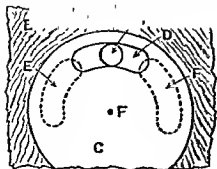

FIG. 10
are now on the market. The simplest form of shutter in common use to-day is the one-speed to and fro pattern (Fig 10). (A) is the lens in the camera front (B), in front is a circular or other shaped plate (C) which revolves on a pivot (F) but does not make a complete revolution. In it is an aperture (D) which passes before the lens thus making the exposure. Before the exposure the lens is covered by the plate the aperture being at (E or F), by means of a lever the plate is partly rotated—bringing the aperture to the opposite side. The speed is usually about $\frac{1}{25}$ th of a second. There is also an arrangement for causing the aperture to remain opposite the lens for a certain period, so as to give "time" exposures.